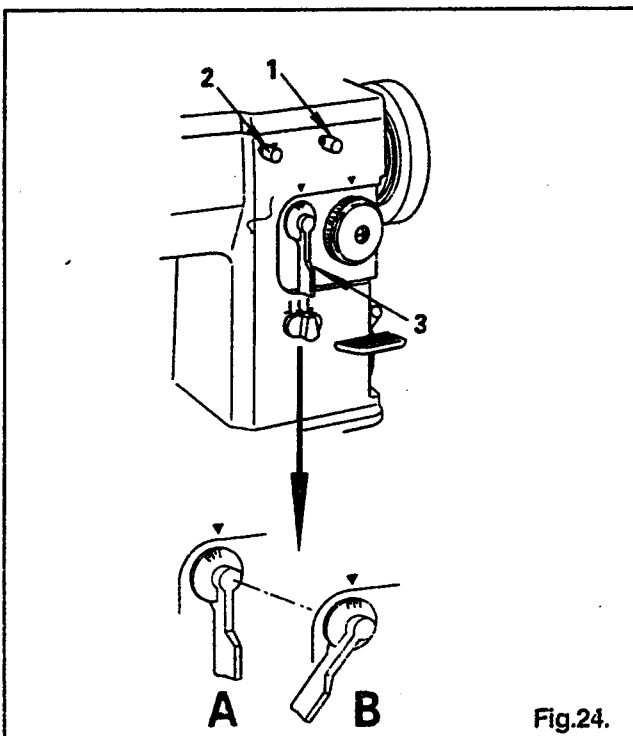

Fig.24.
To obtain minimum to maximum width zigzag stitches, first loosen thumb screw (2) ,Fig.24, to permit the stitch width regulator (3) , Fig.24 to return to its zero position (see A, Fig.24) and retighten thumb screw (2).
Then loosen thumb screw (1), Fig.24, turn stitch width regulator (3) clockwise as far as it will go and while holding the regulator (3) in this position (see B, Fig.24), retighten thumb screw (1).